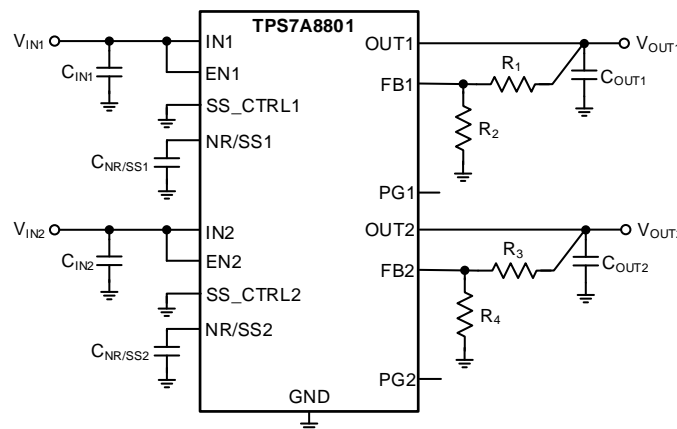

Figure 42. Adjustable Operation
The output voltages of the TPS7A8801 can be adjusted from 0.8 V to 5.0 V by using resistor divider networks as shown in Figure 42.
(1) R_1, R_3 are connected from OUTx to FBx; R_2, R_4 are connected from FBx to GND; see Figure 42.